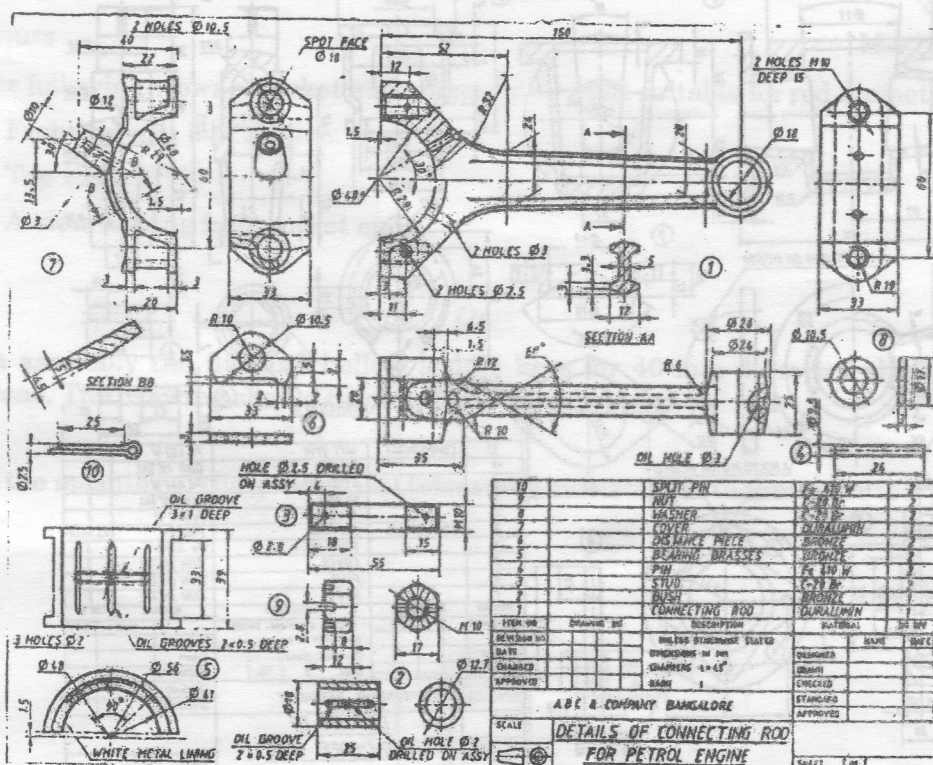

Fig. 3.
5. A petrol engine connecting rod has the part details shown in Fig. 3. Prepare the following assembled views of them :-